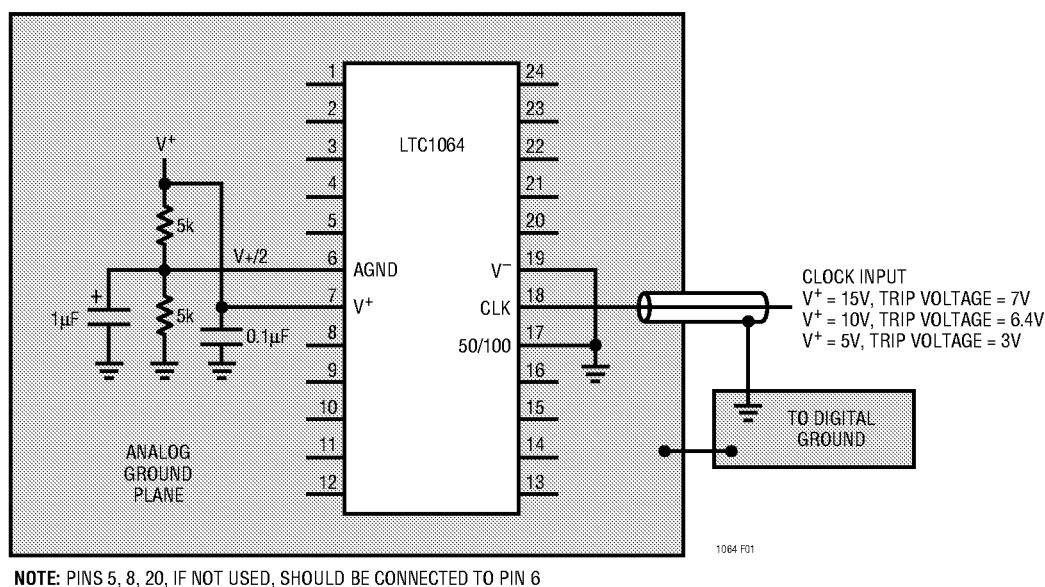

Figure 1. Single Supply Operation
**AGND (Pin 6):** Analog Ground. When the LTC1064 operates with dual supplies, Pin 6 should be tied to system ground. When the LTC1064 operates with a single positive supply, the analog ground pin should be tied to 1/2 supply and it should be bypassed with a 1μF solid tantalum in parallel with a 0.1μF ceramic capacitor, Figure 1. The positive input of all the internal op amps, as well as the common reference of all the internal switches, are internally tied to the analog ground pin. Because of this, a very “clean” ground is recommended.